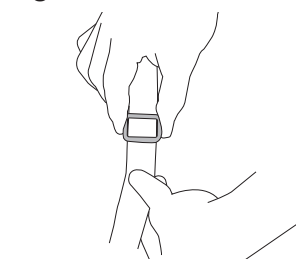

Figure 29
- Both the shoulder straps and the waist/crotch straps may be adjusted using the sliding buckles on these straps. See Figures 29.